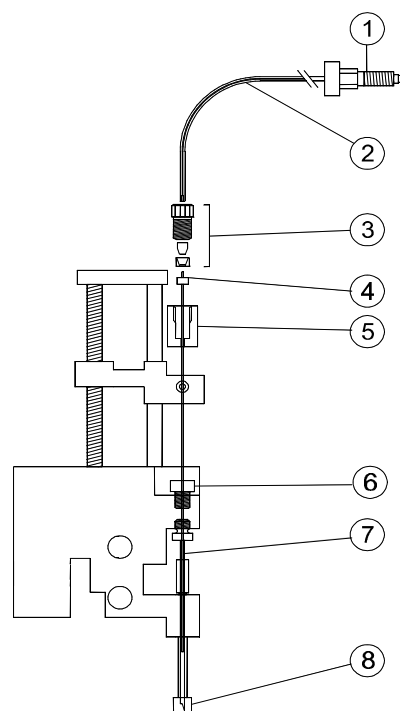

Figure 2.3 Needle assembly
- sample needle: placed inside the hollow prepuncturing needle; used for the actual transport of sample. Different types of needles can be used here (refer to section 2.6, and options mentioned in Appendix D). If a needle with deviating diameter is used, a different air outlet nut (see figure 2.3, number 6) must be used that matches the injection needle.
2. Remove the standard air outlet nut (figure 2.3, number 6) and replace it by the nut supplied with the optional sample needle.